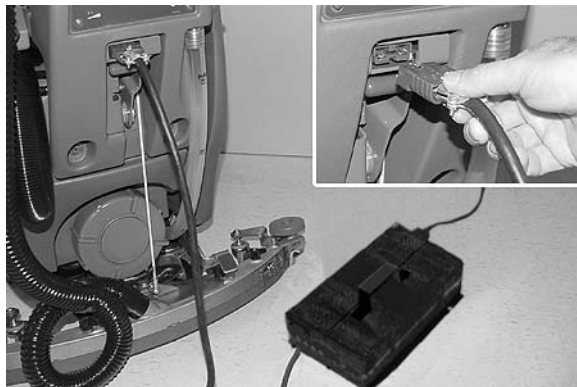

FIG. 35
6. Connect the charger's DC cord to the machine's battery receptacle at the rear of the machine (Figure 35).